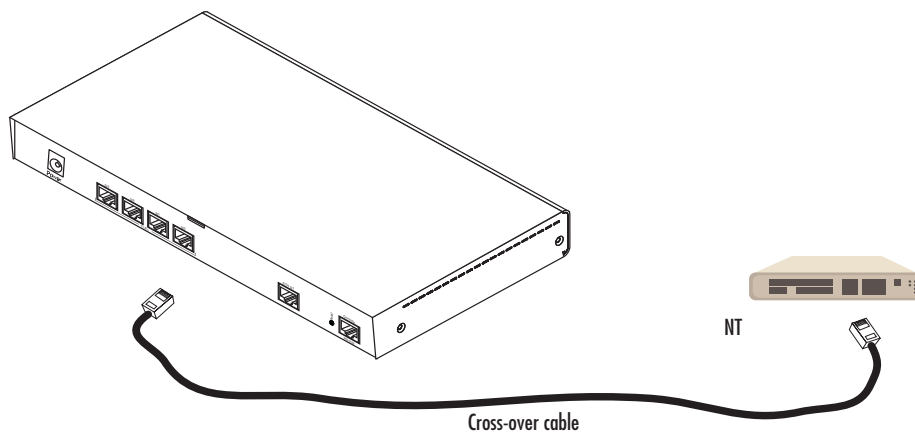

Figure 10. Connecting an E1 PRI port to an NT1
The E1 PRI is usually connected to a PBX or switch—local exchange (LE). Type and pin outs of these devices vary depending on the manufacturer. In most cases, a straight-through RJ-45 to RJ-45 can be used to connect the PRI with a PBX. A cross-over cable is required to connect to an NT device, as illustrated in figure 10 on page 50.